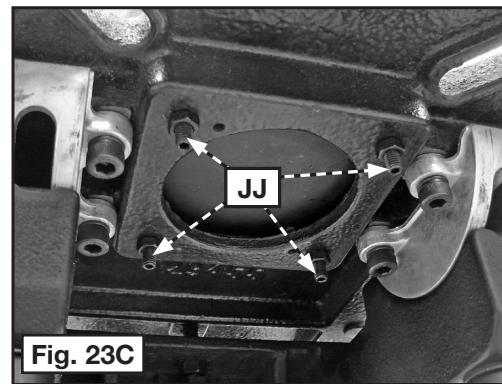

Fig. 23C
3. If the insert is not level with the table, adjust the four jack screws (JJ) Fig. 23C. When the table insert is level, tighten the locking nut on each screw.